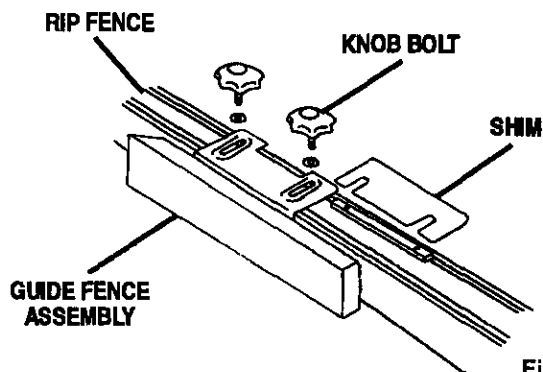

Fig. 5
- Assemble 1/4 in. flat washers onto each knob bolt and screw knob bolts into holes on mounting bars as shown in Figure 5.